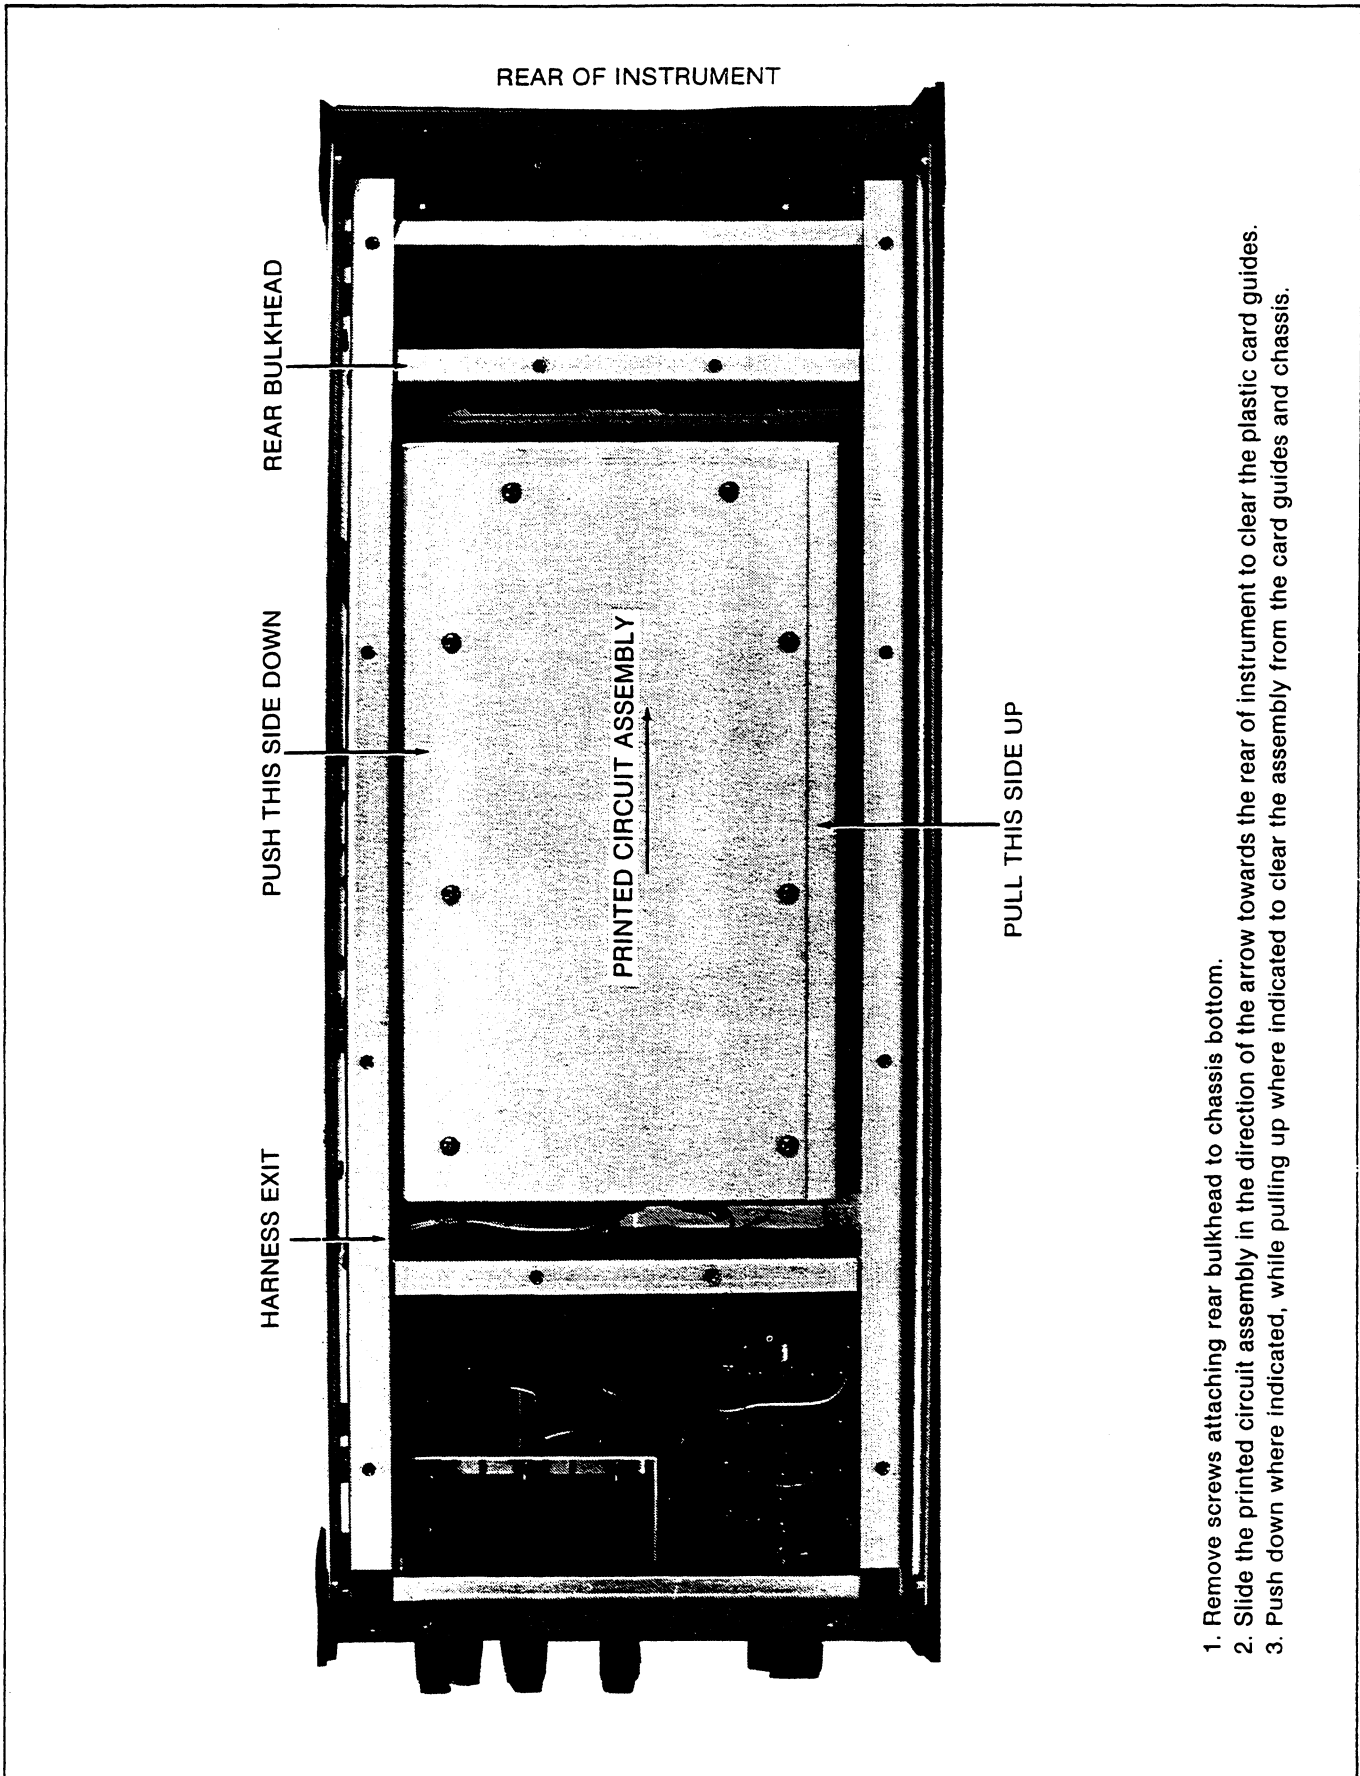

Figure 4-3. PCB Access
4-25. Use the following procedure to remove the printed circuit board from the 752A. Refer to Figure 4-3.
6. Disassemble the 752A and inspect the Bridge and Compensation PCB assembly. Determine the status of jumpers E21 through E30 inclusive. The jumper locations are shown in Figure 4-3. Use Table 4-2 to find the present compensation value ( $R_c$ ).
4. Remove the top cover, guard cover, and service cover. Inspect the Bridge and Compensation PCB assembly to determine the status of jumpers E1 through E10 inclusive. The jumper locations are shown in Figure 4-3. Use Table 4-3 to find the present compensation value ( $R_c$ ).